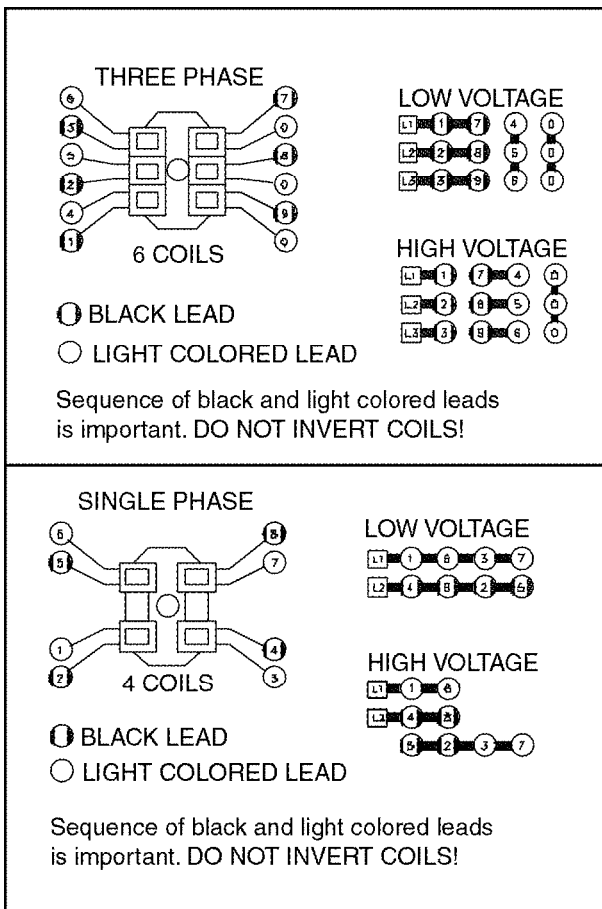

Figure 2. Wiring Diagram
5. Connect coil leads per appropriate wiring diagram in Figure 2 and replace cover.